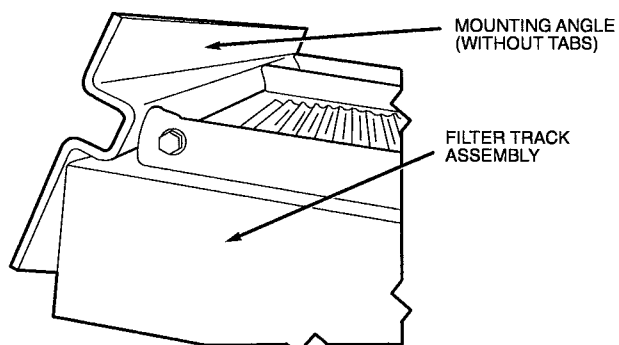

Fig. 21 — Mounting Angle (Without Tabs) Attached to Filter Track Assembly
13. Attach mounting angle (without tabs) to the assembled end of the filter track. See Fig. 21.